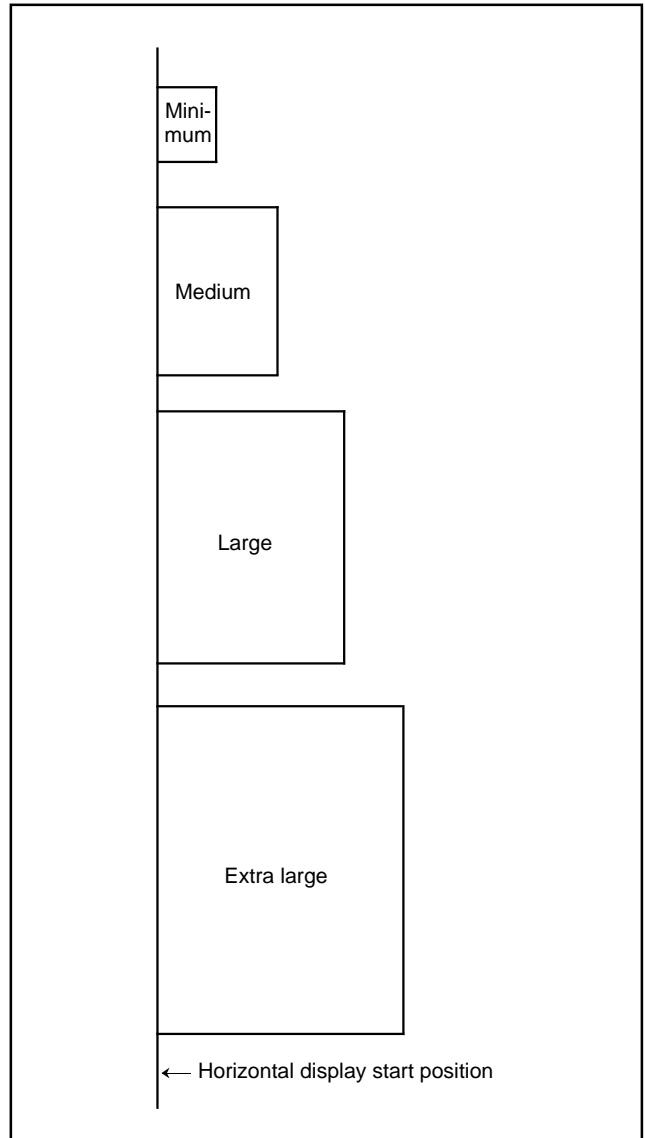

Fig. 50. Display Start Position of Each Character Size (horizontal direction)
**Note:** The display start position in the horizontal direction is not affected by the character size. In other words, the horizontal display start position is common to all blocks even when the character size varies with each block (refer to Figure 50).